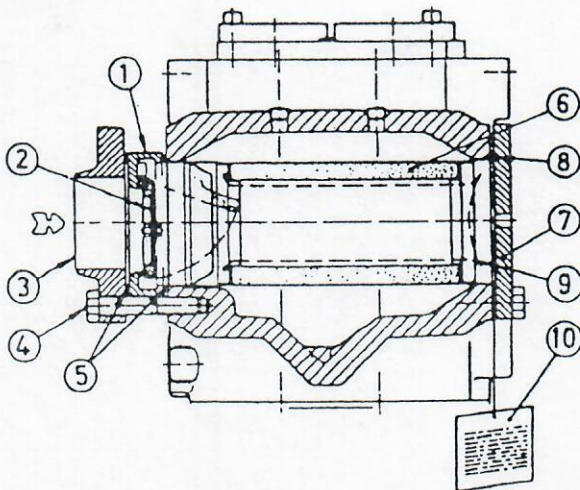

Fig. 1 Inlet to R5 compressor
The purpose of the check valve is to prevent gas from flowing rapidly through the compressor from the high-pressure to the low-pressure side when it is stopped. The check valve (1), see Fig. 1, is of the flap type, and it is mounted between the suction line and the compressor suction filter housing. When the compressor is stopped, the check valve closes so that the pressure in the compressor is equalized, thus preventing the compressor from rotating backwards.